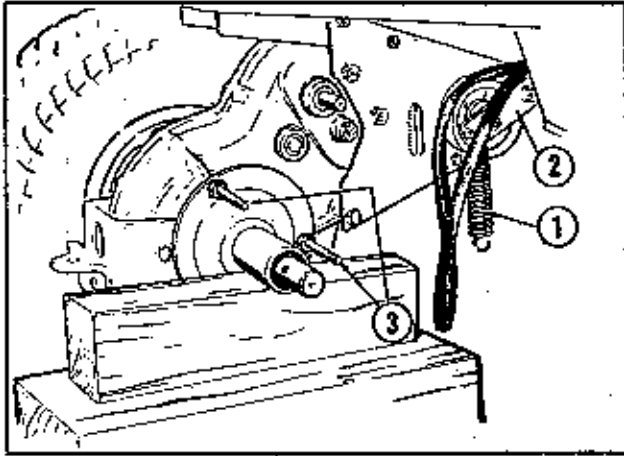

Figure 6
Release the idler pulley from the transmission drive belt by unhooking the spring #1, Fig. 6, and allowing the idler arm #2, Fig 6 to swing downward.
2. Remove two hex capscrews from the transmission case and insert the two long studs #3, Fig. 6, into the vacant bolt holes as shown. Tighten securely.